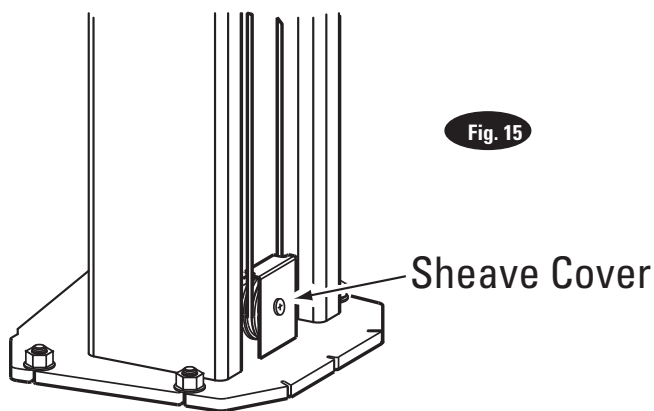

Fig. 15
- G) Run cable around overhead sheave and across and down to the opposite carriage. Install sheave cover, Fig. 15.